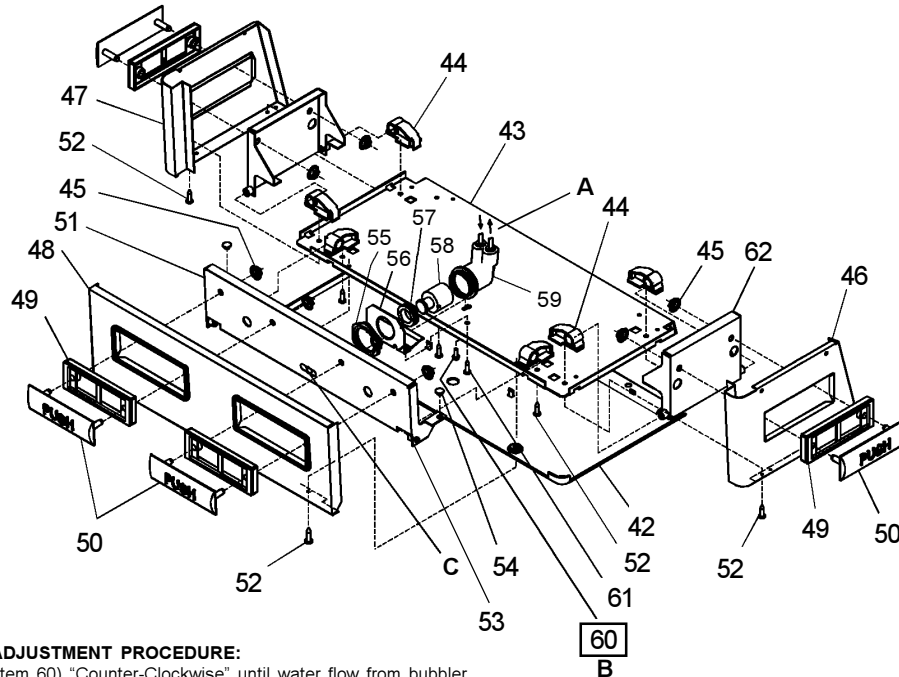

FIG. 3
- 8) Stream height is factory set at 45-50 PSI. If supply pressure varies greatly from this, readjust stream height to approximately 1-1/2" (38mm) above the bubbler guard by turning adjustment screw, accessible by removing front push panel on the upper unit or through the small hole in the front push panel on the lower unit. Item No. 48 (see Fig.3 & 5).
- 9) Replace the front panel and secure by retightening four (4) screws.